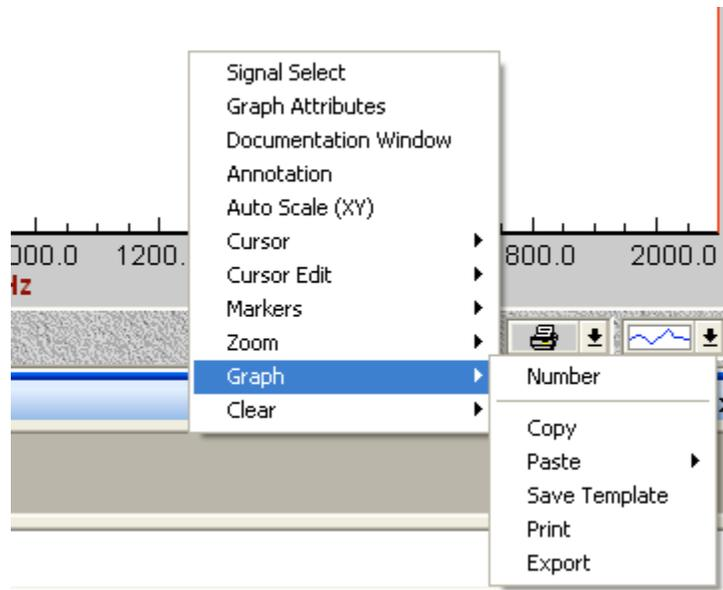

Figure 4-22: Screenshot of scroll down menu to graph
- 8) Right click the graph and scroll down to “GRAPH” and select “EXPORT”. This will save a raw file of all the data points. See Figure 4-22.